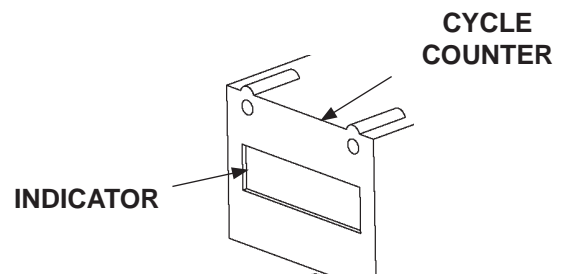

FIG. 6-2
9. Raise and lower Liftgate platform more than once (see **Liftgate Operation Manual**). Check number on cycle counter indicator (**FIG. 6-2**). The number of platform raise cycles must equal the number indicated on cycle counter.